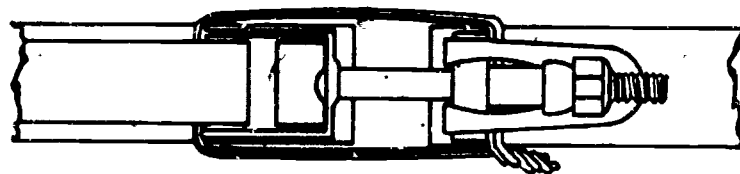

Figure 8. Side View, V-Band Clamp.
j. Bend the pigtail to the right and flat against the clamp; then loop the end of the pigtail back towards the clamp so that it cannot become a dangerous snag. Refer to figure 8 to see how the clamp should appear when properly safetied.